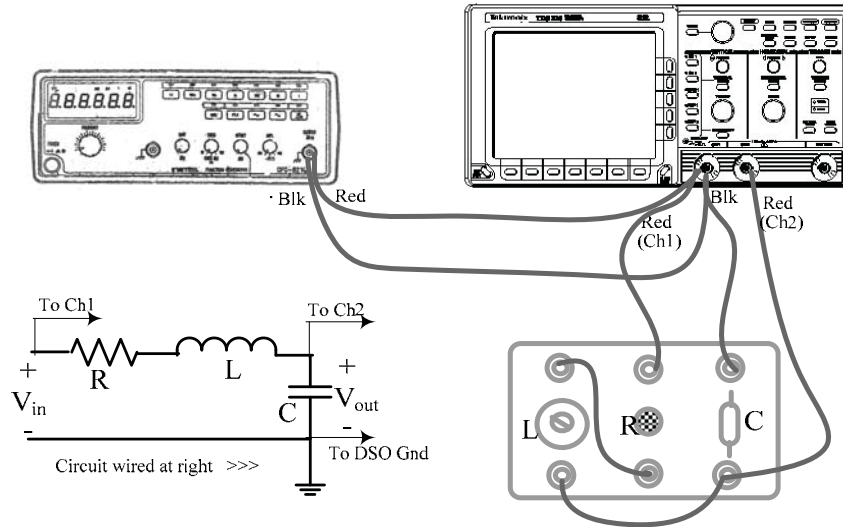

Figure 1.13
- Make the banana-plug patch cord connections shown in Figure 1.13 between the FG, the DSO and the RLC-Chassis using appropriate lengths and colours. The circuit obtained is a **series-RLC** circuit excited by a voltage source, with the voltage across C being the output voltage  $V_{out}$ . [Note that after connecting the FG to the DSO, as in Figure 1.9, all the other connections are made at the DSO terminals alone, since this results in minimum wiring clutter].